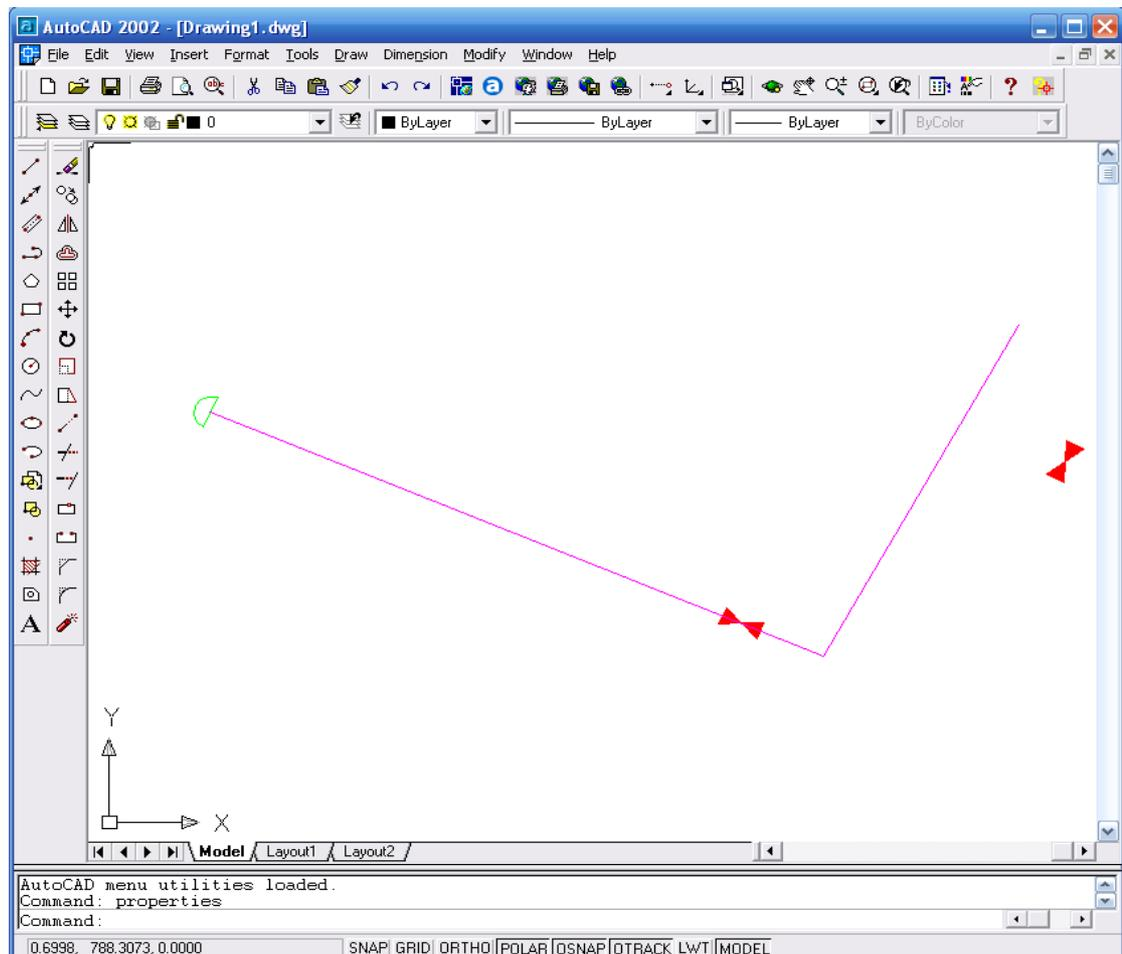

Figure 4
- If we want to give this map to other organisations for analyzing, then it is not correct. Because elements are not in their right place. In according to above example steel pipe lines may be in polyethylene pipe layer and so on. (Figure 4)